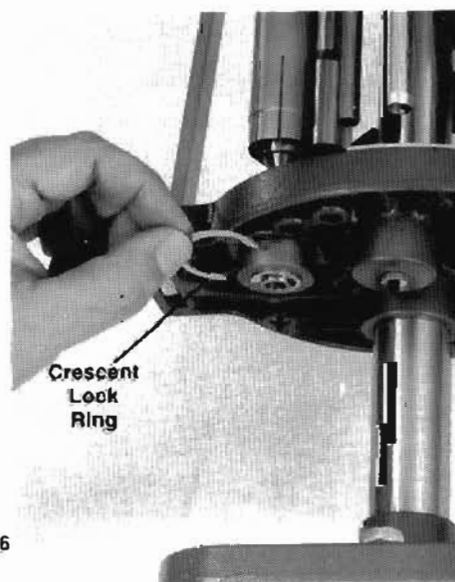

Fig. 46
**Figure 46** - Carefully push the supplied crescent lock ring into the slot of the collet sizer base, from underneath the platen. Replace the shellplate and case guide and tighten all screws securely.